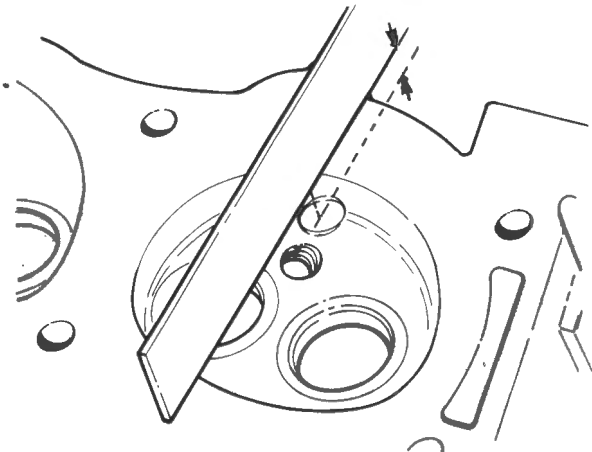

Fig. D-5
- 5 The cylinder head gasket faces may be reconditioned by machining. The maximum allowable amount of material that can be removed from original is 0.25 mm (0.010 in). To ascertain the amount of material that can be removed, measure the depth of the end combustion chambers from the gasket face to the spot faced projection, on the side of the combustion chamber adjacent to the spark plug hole, Fig. D-5.